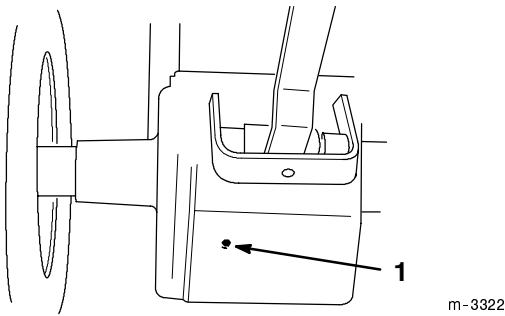

Figure 52
5. Open the drain by removing the plug (Fig. 52).